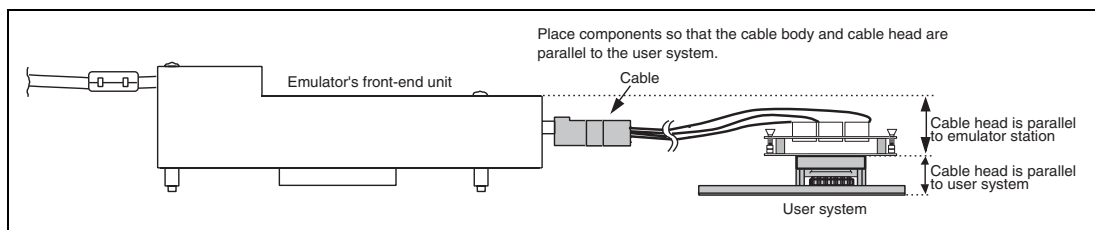

Figure 11 User System Interface Cable Location Example
4. While the emulator station is connected to the user system with the user system interface cable, force must not be applied to the cable head. Place the emulator station, user system interface cable, and user system as shown in the example in figure 11.